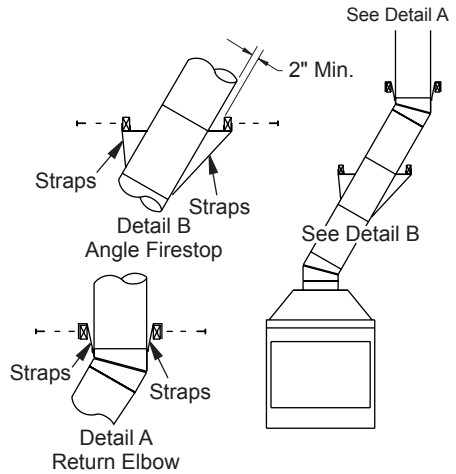

Figure 8 - Ceiling Support Pipe 12S-12DM
2. Chimney weight above offset rests on return elbow. Straps must be securely nailed to rafters or joists (see Figure 8, details a and b).